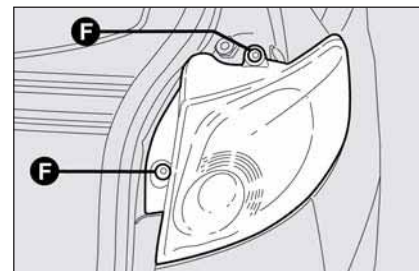

fig. 32
- ☐ loosen the two screws **F-fig. 32** and remove the light unit;